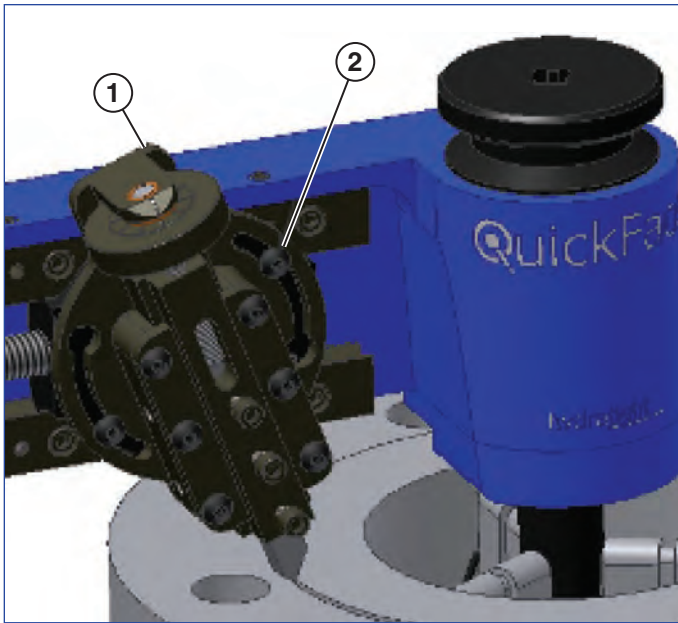

Figure 11
2. Loosen the swivel slide screws to tilt the swivel slide. The preferred angle of the slide is between 10° – 30° from perpendicular. Make sure that the slide is tilted enough to make it across the entire face in one continuous operation without running out of travel (*see Figure 11*). The QuickFace cuts from the OD toward the ID.